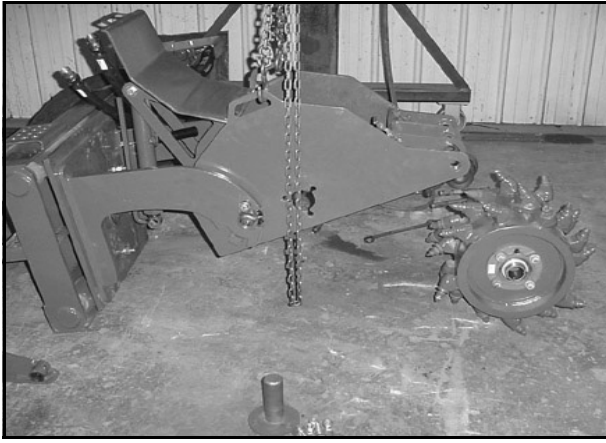

Figure 25.
3. Slide the drum under the chassis and lower the chassis until the motor pilots against the sideplate as shown in Figure 25.